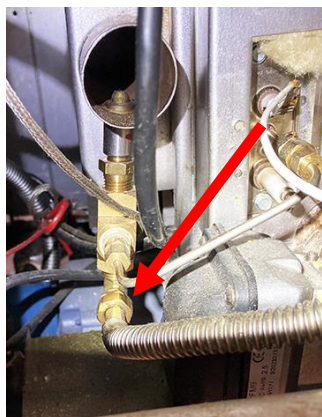

Figure 36
39. Disconnect the gas line from the left burner (see Figure 36) and slide out of way and under the drain.